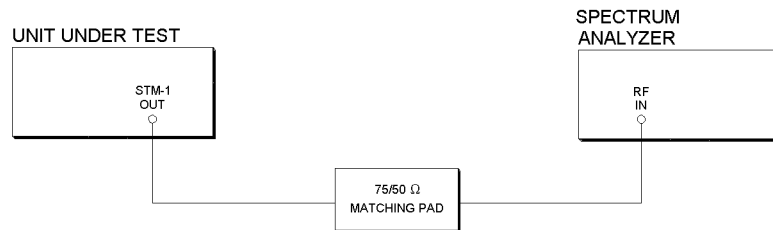

Figure 3-48
4. Connect up the equipment as shown in Figure 3-48.